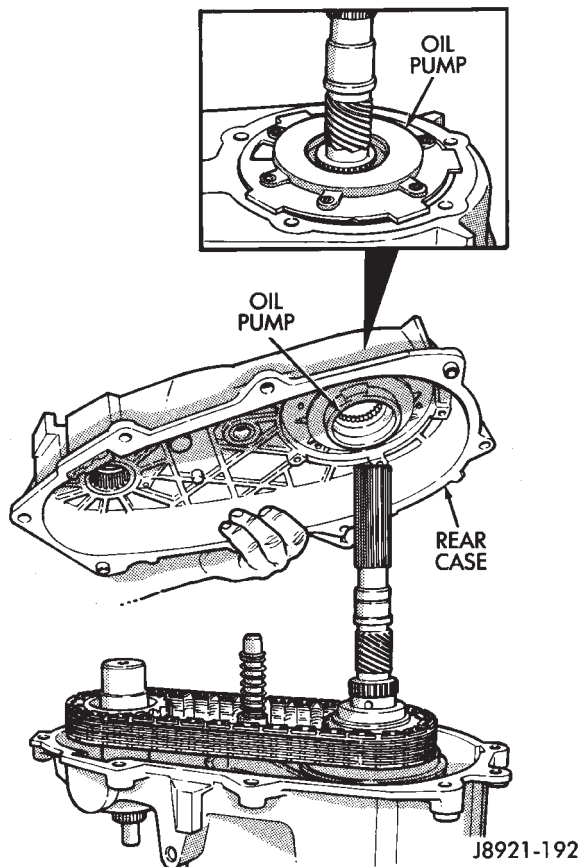

Fig. 61 Installing Rear Case On Front Case
(46) Install magnet in front case.
(47) Apply 3 mm (1/8 in.) wide bead of Mopar gasket maker, silicone adhesive sealer, or Loctite 518 to seal surface of front case.
(48) Align and install rear case on front case (Fig. 61). Be sure case locating dowels are in place and that mainshaft splines are engaged in oil pump inner gear.